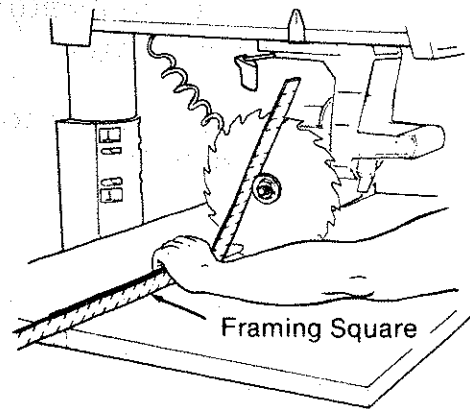

Fig. 111 - Squaring Blade to Fence
1. Put the *radial arm* in the 0° miter position with the *blade* just in front of the *fence*. (Figure 111)
3. Place the framing square with the long edge against both the *fence* and the *table*, and the short edge against the *blade* just above the *arbor shaft*. Make sure that the edge of the square is on the *blade* and not on the set of a tooth. (Figure 111)